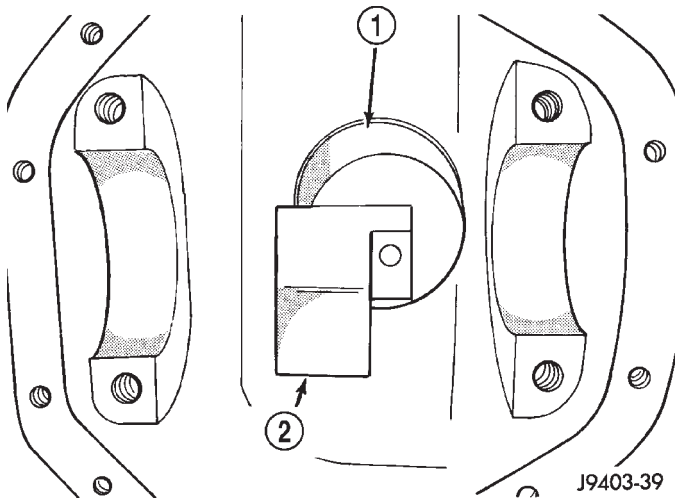

Fig. 80 Pinion Height Block—Typical
(2) Insert assembled height gauge components, rear bearing and screw into axle housing through pinion bearing cups (Fig. 80).